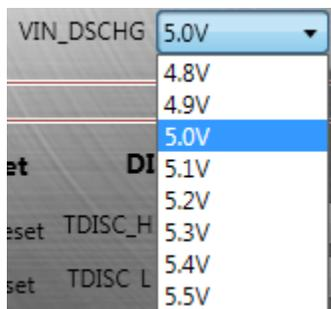

Figure 21: Setting the OTG Output Voltage Regulation
- The default value is 5V (see Figure 21).